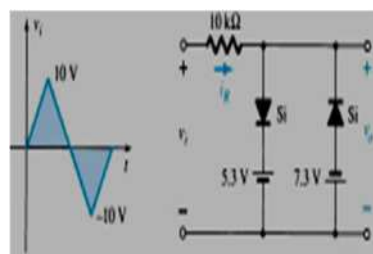
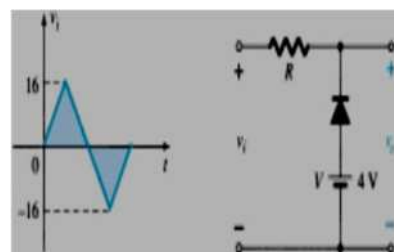

Fig. 1
Fig. 2
1. Sketch i_R and V_o of Fig. 1 for the input shown and draw the V_o waveform for the Fig. 2 circuit.